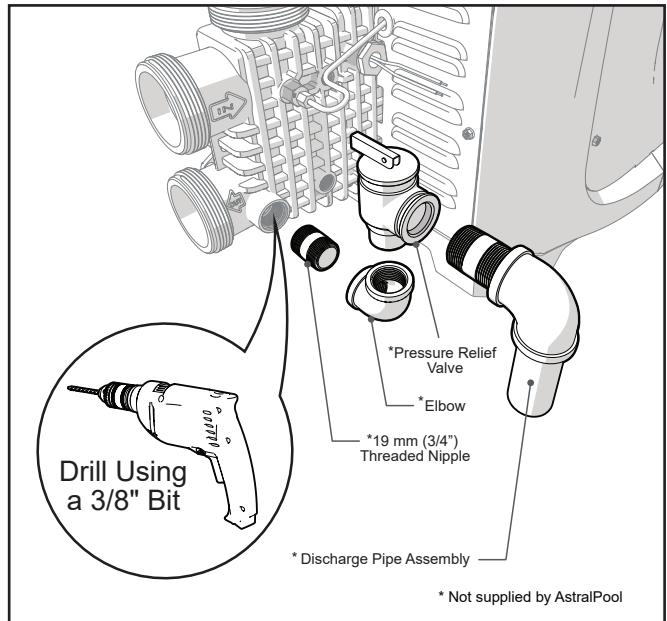

Figure 16. Pressure Relief Valve install
- Locate the water outlet port on the inlet/outlet header side of the heater. This is the bottom port which returns water to the pool and/or spa. See *Figure 16*.
- Locate the threaded boss on the outlet port of the header, and find the dimple at the center. See *Figure 16*.